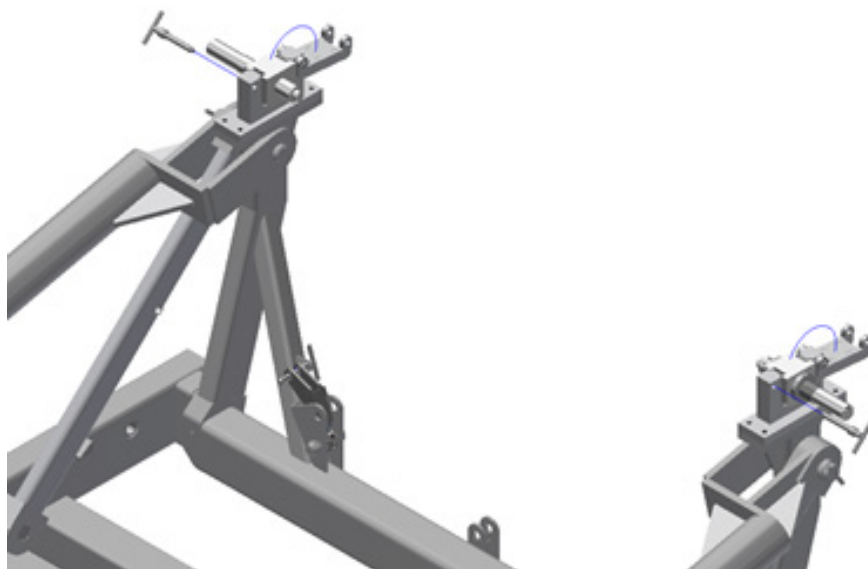
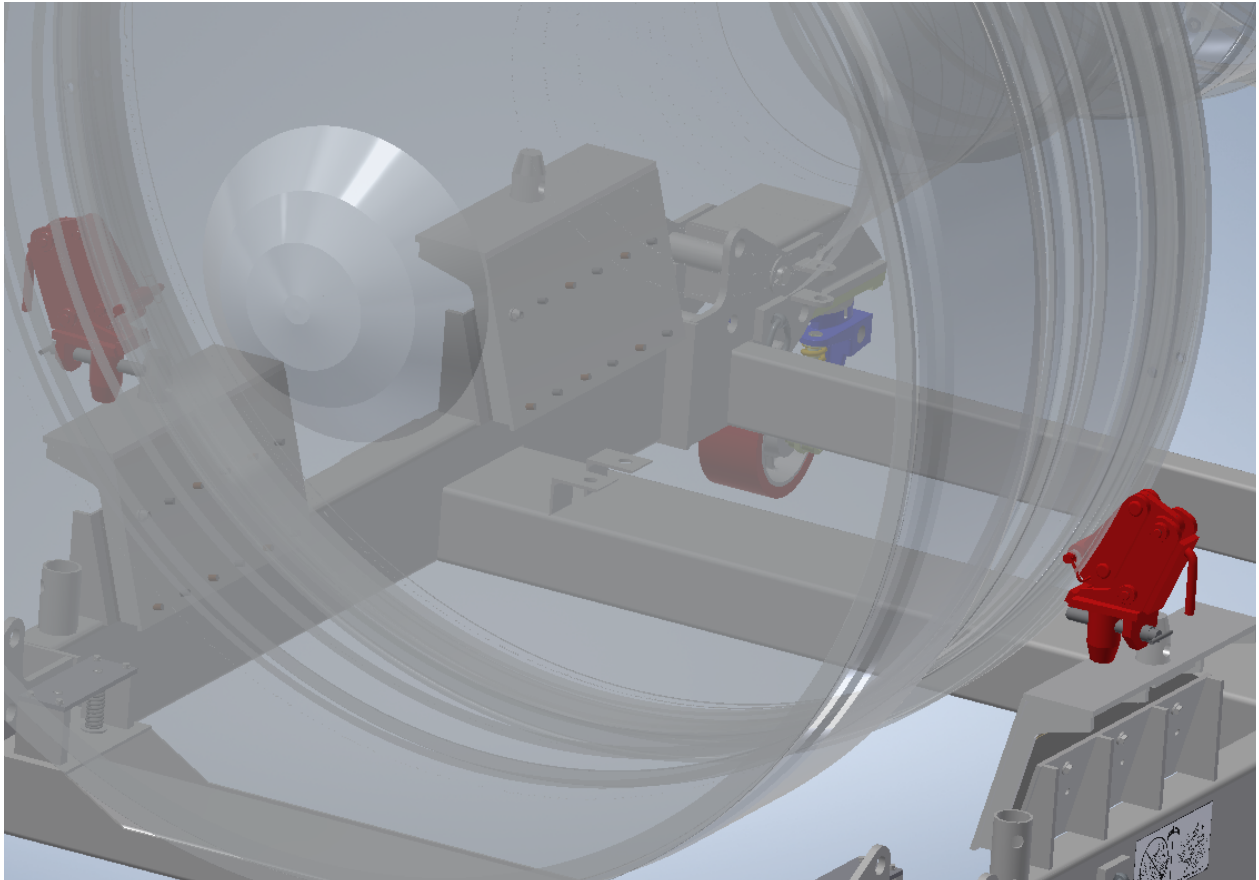

Figure 4.5-1
Figure 4.5-2
- 3). Configure the AM-1928 transportation stand to install engine. Remove the aft mount support adapters AM-1928-E10 (LH) and AM-1928-F10 (RH) by removing the safety pin retaining the AM-1928-D10 saddle hold down bars and swing them aft for adapter clearance. Figure 4.5-1. Next remove forward adapters AM-1928-A34 (LH) and AM-1928-B34 (RH) from the cradle. Pin to the aft fan case engine handling points H5-2 and H5-1.
- 4). Pin the AM-1928-A34 (LH) and AM-1928-B34 (RH) to the aft fan case engine handling points H5-2 and H5-1.
- 5). Suspend the engine with an overhead crane about 24-inches above the installed position with Forward adapters aligned with the cradle dagger holes. Figure 4.5-2.
- 2). Remove the forward AM-1928-A34 (LH) and AM-1928-B34 (RH) adapter dork pin securing pins at the cradle. Figure 4.5-2. The aft support adapter saddle hold down bars, AM-1928-D10, safety pins are removed allowing them to be swung clear for adapter clearance. Figure 4.5-1